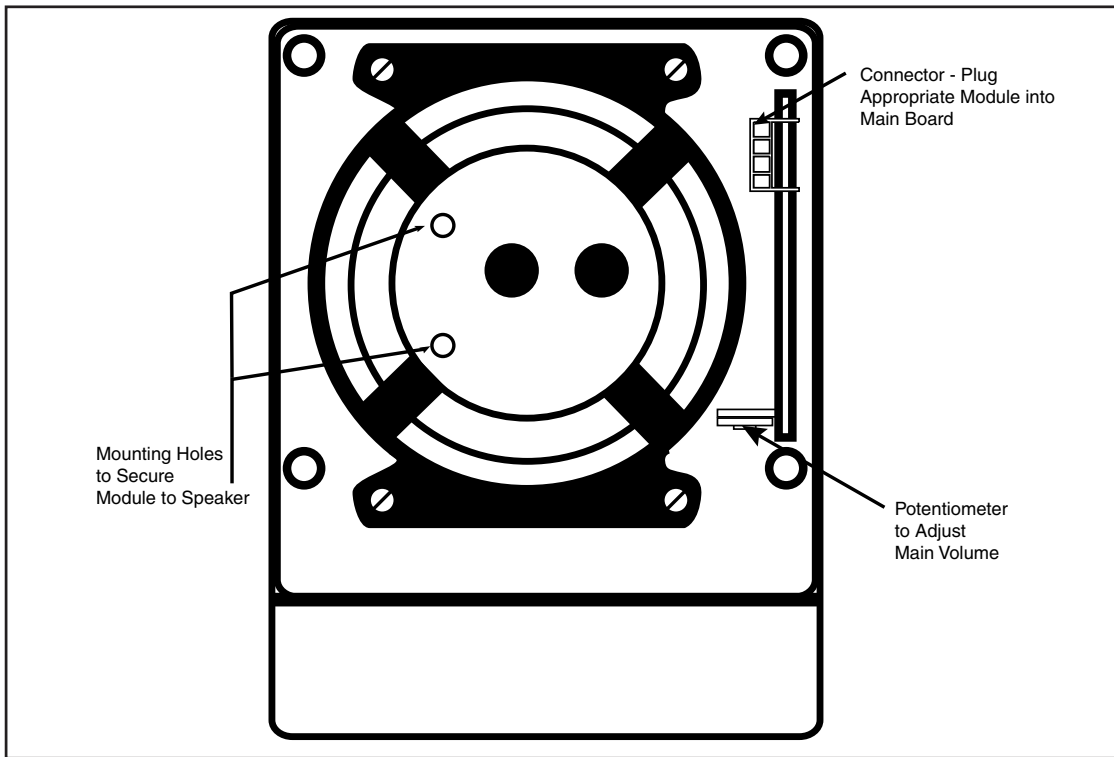

Figure 1. Mini-Mi Housing
2. Remove (2) screws holding pc board to speaker in the Mini-Mi housing and remove pc board. (See Figure 1.)
3. Insert appropriate module, plugging it into the main board. Secure to speaker using screws removed in step 2. (Figure 1)
6. Place housing on backplate and secure using (4) screws removed in step 1.
7. Adjust volume using the potentiometer on the main board (Figure 1).